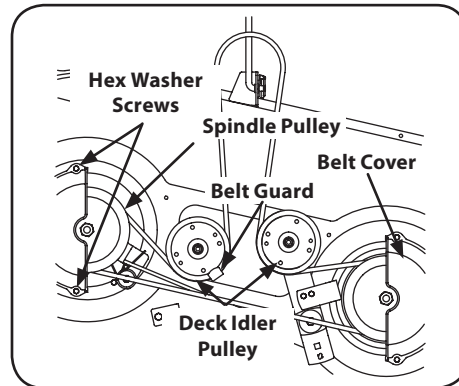

Figure 4-14
2. Remove the belt covers by removing the hex washer screws that fasten them to the deck. See Figure 4-14.
4. Carefully remove the deck belt from around the two spindle pulleys and the two deck idler pulleys. See Figure 4-14.
5. To place the new belt, begin by routing the belt around the two outer spindle pulleys as shown in Figure 4-14.
6. Route the belt around the two deck idler pulleys as shown in Figure 4-14.
9. Re-install the deck, making sure the belt remains routed around the pulleys as instructed. See Figure 4-14.